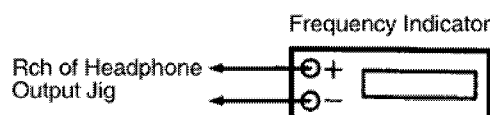

Fig. 10
3. Adjust the motor screw so that the following output level is produced. (Cf. Fig. 10)